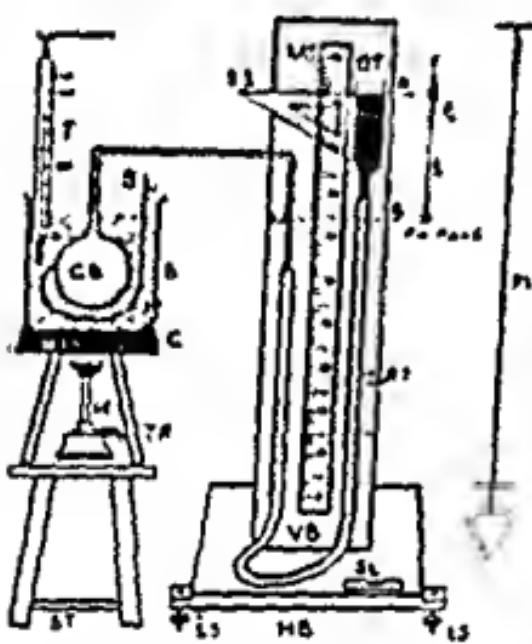

Fig. 6.1
2. Immerse the glass bulb G B completely in the water inside beaker B as shown in the fig. 6.1 and read the initial temperature (room temperature) after stirring the water.
3. To keep the volume of air constant fix a mark and it is M in case of fig. 6.1
It consists of a glass bulb G as shown in the figure 6.1. Glass bulb is connected to a thick capillary tube bent twice at right angles. There is glass tube OT fitted to a vertical stand and can be moved up and down. OT is connected to the capillary tube through a rubber tubing RT. Glass bulb and part of capillary tube is filled with air and tube OT and rubber tubing RT contain mercury. The base of the vertical stand is fitted with levelling screws